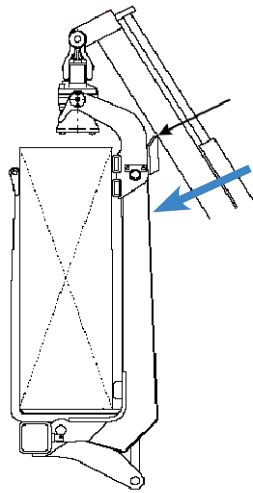

Figure 5.1: Fork or load should never rest against crane boom (as shown by arrow)
- The swivel fork must always be able to float freely and never allow the fork or load to rest against the crane boom (Figure 5.1).